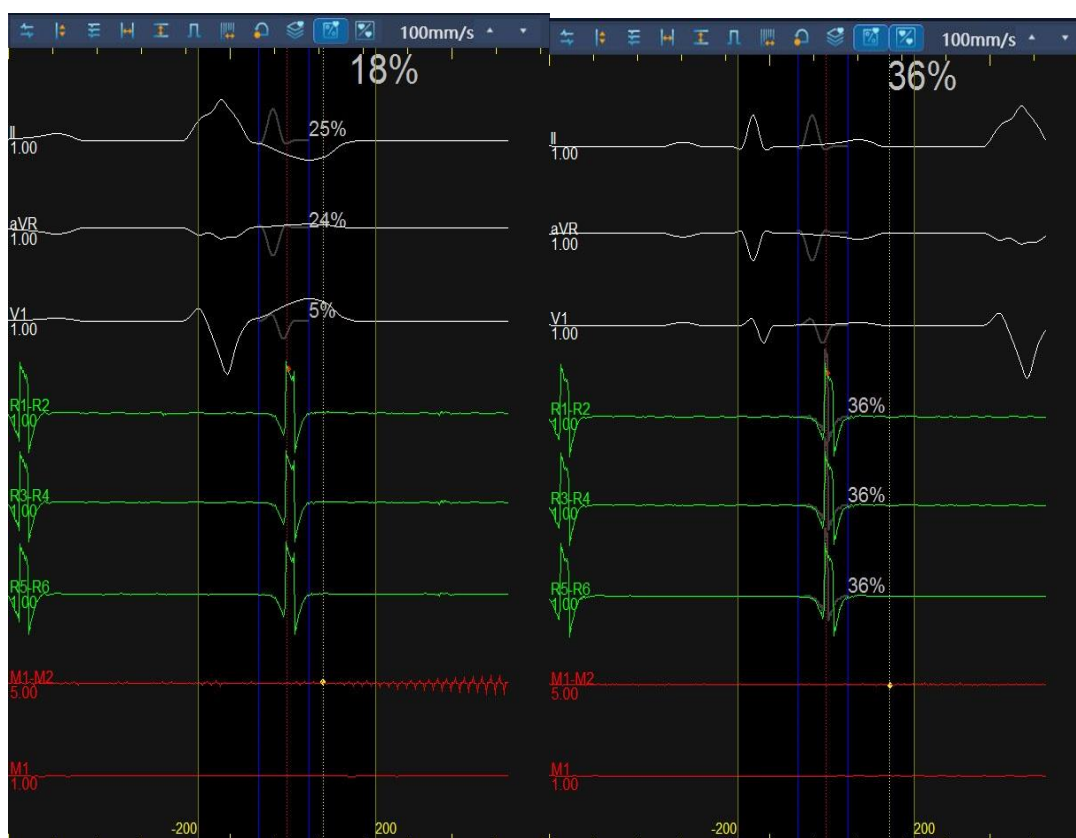

Figure 7-10 Display Template Figure 7-11 Intracardiac Channel Comparison
- 5) Click the Display Template () icon on the Markup Window toolbar (Figure 7-10).